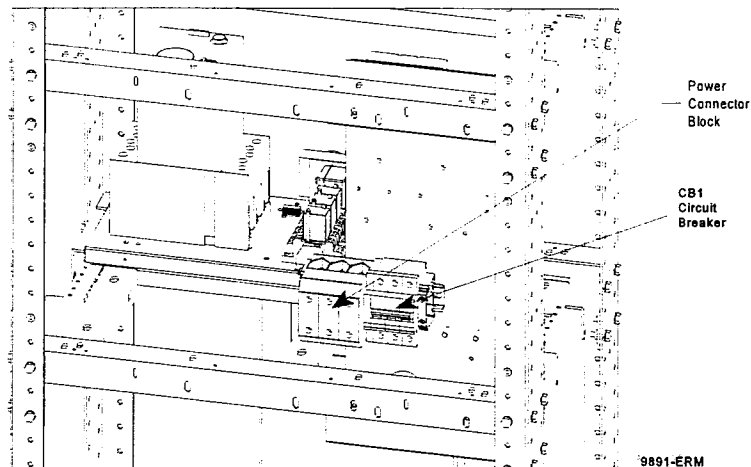

FIGURE 1-2 POWER SHELF (FRONT VIEW)
2. On the power supply shelf or turn CB1 OFF. CB1 is located next to the input power terminals (see **FIGURE 1-2** of this addendum).